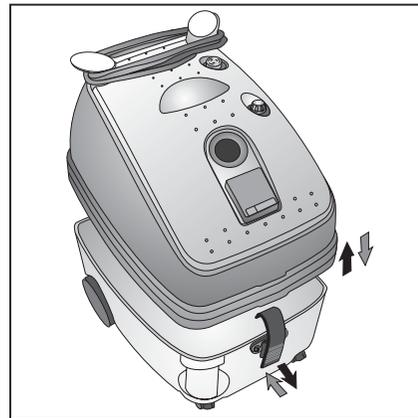

Fig. 3
- Reposition the top part of the machine onto the recovery tank in the direction indicated (Fig. 3).
- Fasten the catches (F) and ensure that the top and bottom parts fit properly.